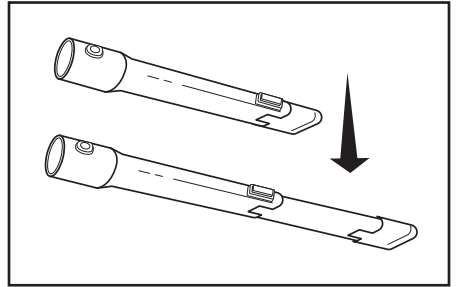

Fig. 5
- Press button to extend the crevice nozzle (Fig. 5)